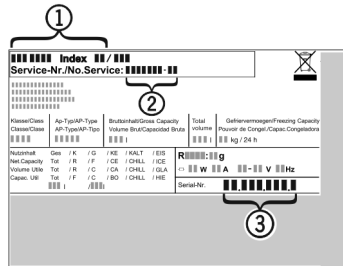

Fig. 4
- ▶ Read the appliance designation *Fig. 4 (1)*, service No. *Fig. 4 (2)* and serial No. *Fig. 4 (3)* off the model plate located inside the appliance on the left-hand side.
- ▶ Notify the customer service, specifying the fault, appliance designation *Fig. 4 (1)*, service No. *Fig. 4 (2)* and serial No. *Fig. 4 (3)*.